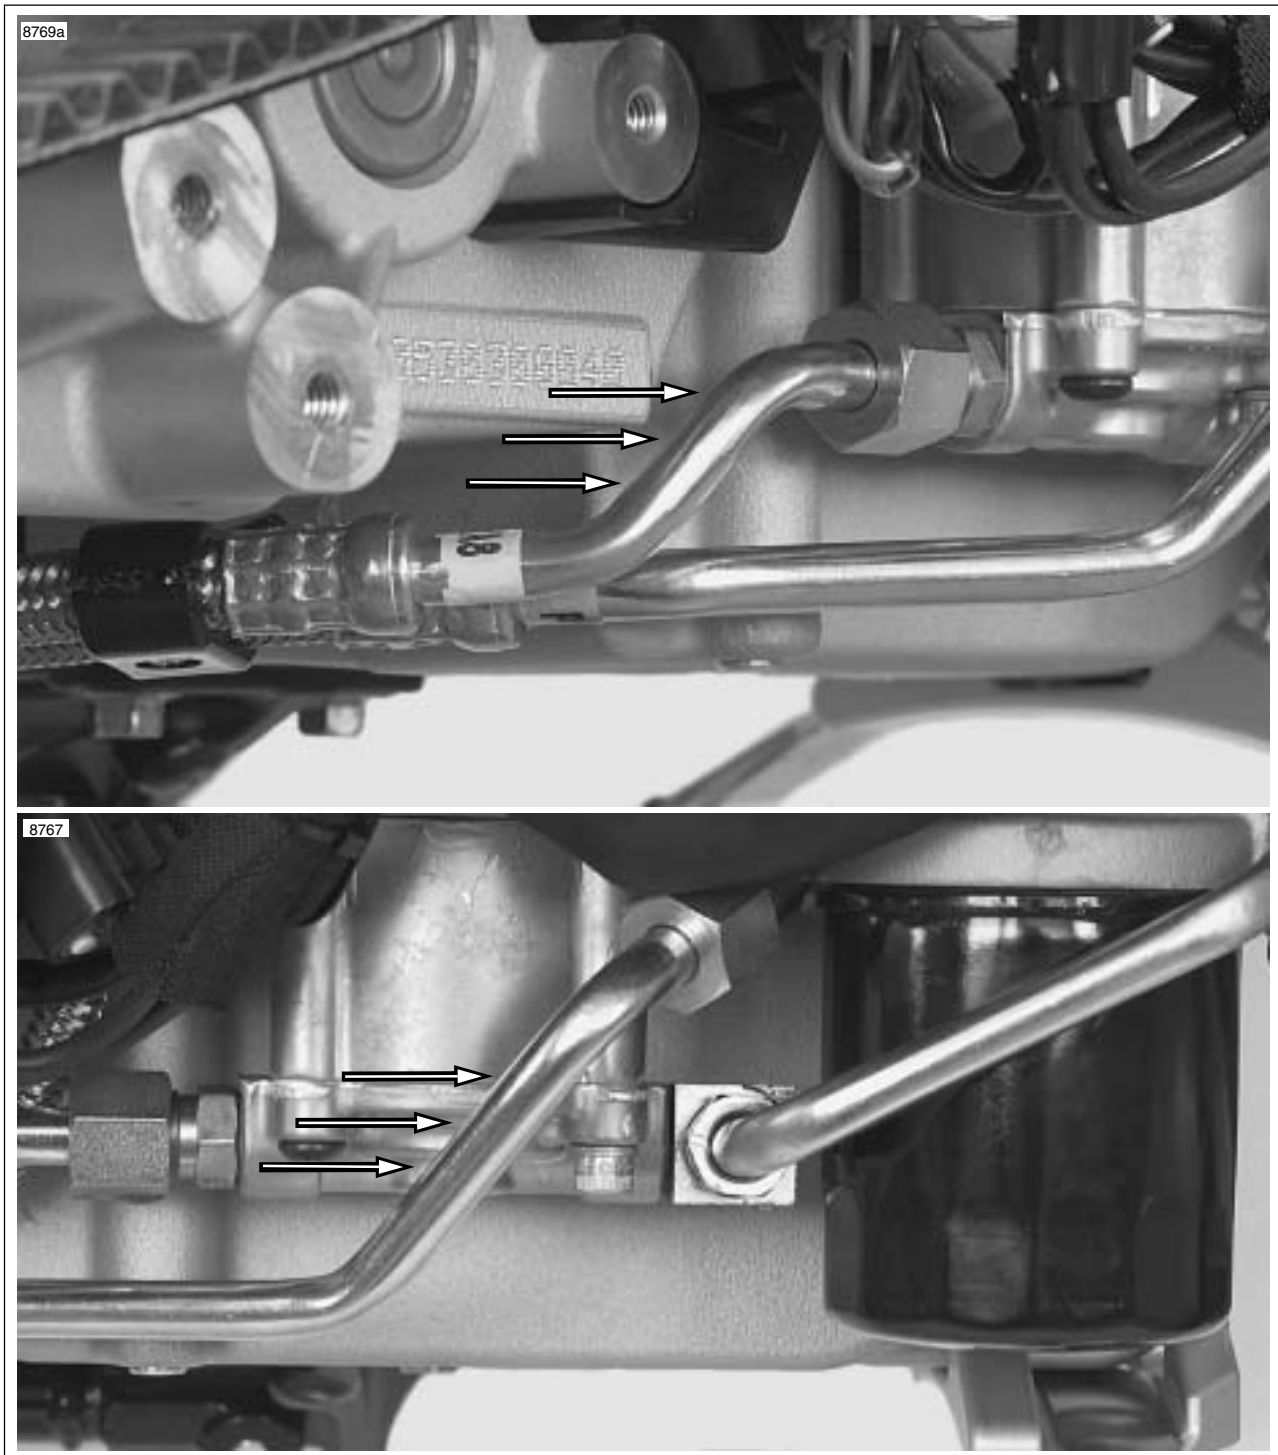

Figure 3-49. Approximate Seven O'Clock Orientation of Oil Feed Line and Oil Return Line at the Oil Pump
25. See Figure 3-49. Torque feed oil line to 27-29 ft-lbs (36.6-39.3 Nm) at the rear of the oil pump. When the oil line has been properly torqued, the orientation of the line should be approximately 7 o'clock.